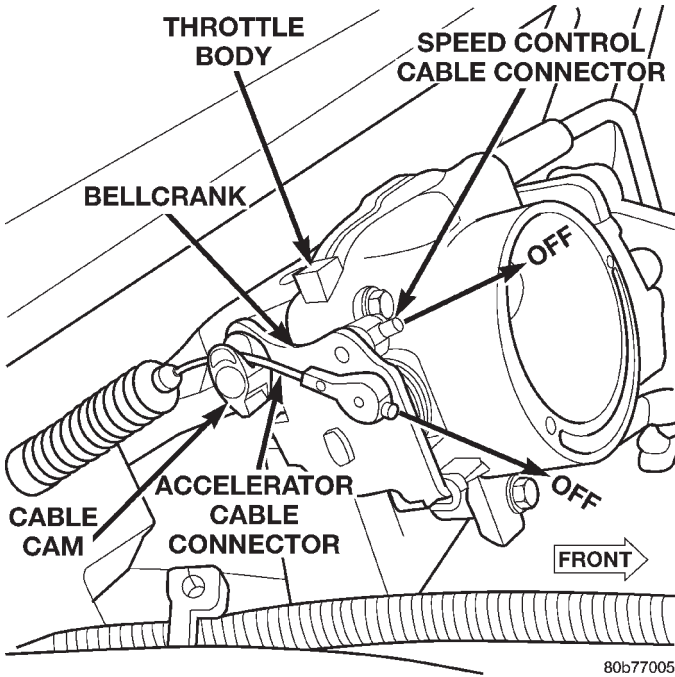

Fig. 46 Accelerator Cable at Bell Crank—4.7L V-8 Engine
(6) Remove cable housing from dash panel and pull into engine compartment.
(7) Using finger pressure only, disconnect accelerator cable connector at throttle body bellcrank pin by pushing connector off bellcrank pin towards front of vehicle (Fig. 46). **DO NOT try to pull connector off perpendicular to the bellcrank pin. Connector will be broken.**
(8) Lift accelerator cable from top of cable cam (Fig. 46).